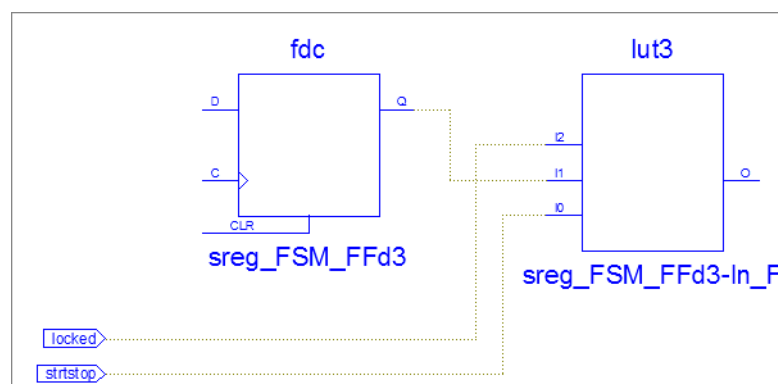
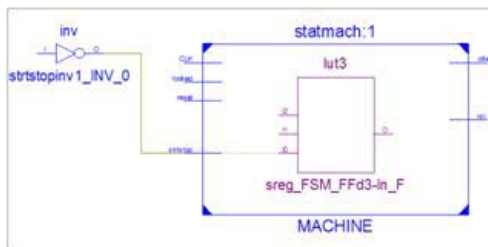

Figure 5-15: Start-Up Schematic
Figure 5-16: Step Schematic
5. Comparing the start-up schematic (Figure 5-15) with the one we obtained at Step 6: Showing and Hiding Block Contents (Figure 5-16), you see that the **sreg\_FSM\_FFd3-In\_F** primitive is not placed inside the **MACHINE** hierarchy block. In addition, **MACHINE** I/Os are represented as primary design pins.